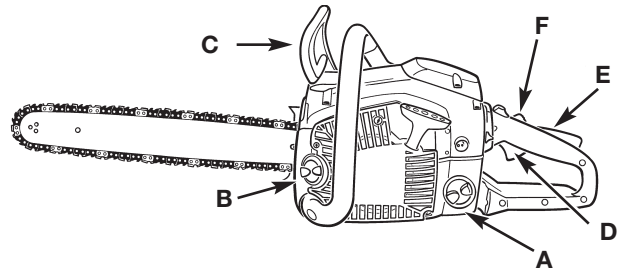

Fig. 3
1. Mix gas with oil. Fill fuel tank (Fig. 3) with fuel/oil mixture. See *Oil and Fuel Mixing Instructions*.
2. Fill the oil tank (B) with correct chain and bar oil (Fig. 3).
3. Be certain the Chain Brake® is disengaged (C) before starting unit (Fig. 3).
8. Hold down safety trigger (E) and squeeze the throttle trigger (D). With thumb, press down on the throttle latch (F). This will lock the throttle into wide open position (Fig. 3). Pull the rope with a **controlled and steady motion 4 times**.